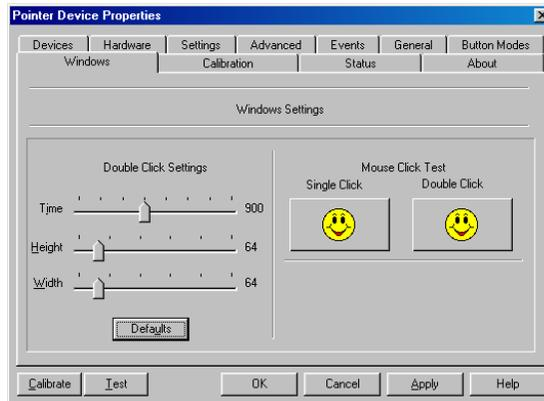

Figure C.6 Double-Click
- The 'Windows' tab (Figure C.6) provides options to adjust the stylus double-click – the 'Time' between clicks and the acceptable distance in 'Height' and 'Width' from the item you want to double-click on. Settings can be tested on the 'Single Click' and 'Double Click' icons.